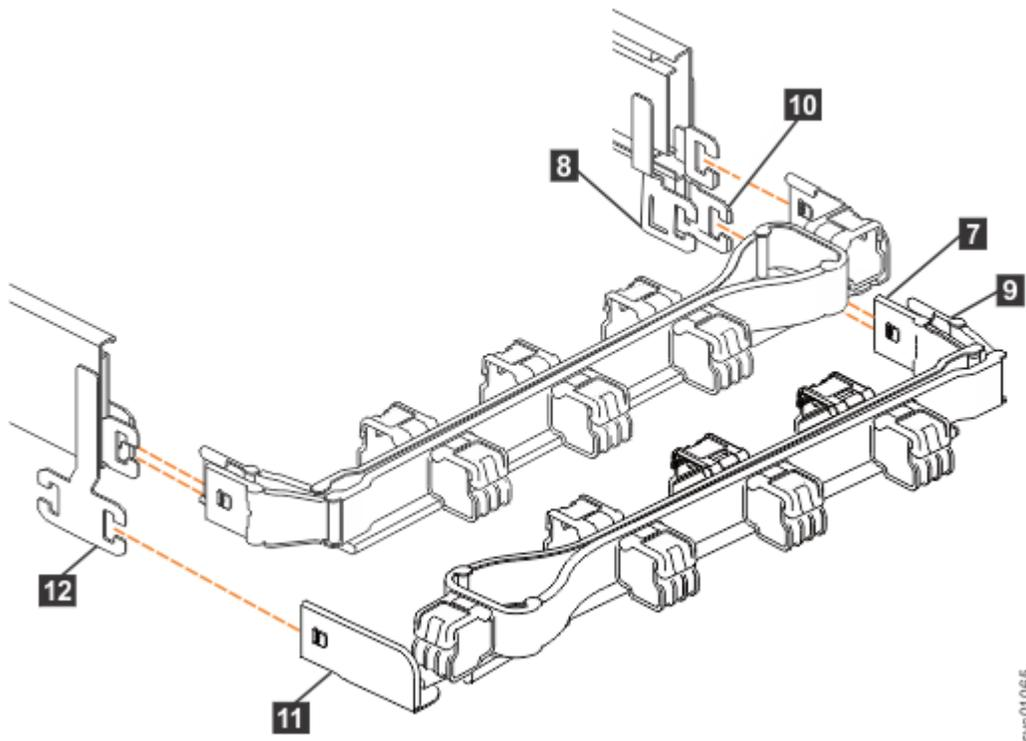

Figure 77. Comparing the location of the components of the CMA assemblies
Note: The procedure for attaching the lower CMA assembly is the same as the procedure to attach the upper CMA assembly. However, the connector locations are reversed. For comparison, Figure 77 on page 71 shows the upper and lower CMA assemblies as they are aligned to the support rails. The support rail connector of the upper CMA attaches to the right rail. The support rail connector of the lower CMA (11) attaches to the left rail.
5. Install the inner connector of the lower CMA assembly (7) to the inner member of the right support rail (8), as shown in Figure 77 on page 71.
6. Install the outer connector of the lower CMA assembly (9) to the outer member of the right support rail (10), as shown in Figure 77 on page 71.
7. Attach the support rail connector on the lower CMA assembly (11) to the connector on the left support rail (12), as shown in Figure 77 on page 71.